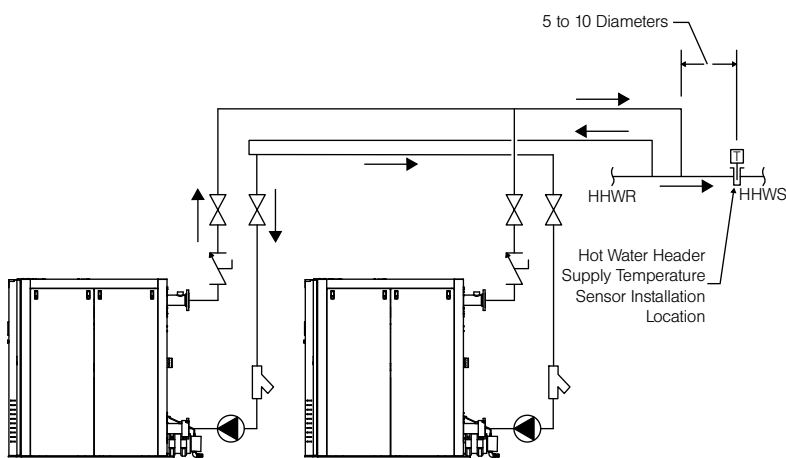

Figure 2 - Primary-Secondary Piping
4. For primary-secondary piping arrangements (Fig 2), install the sensor in the secondary (system) supply piping, 5 to 10 piping diameters downstream of the primary manifold tie in point.